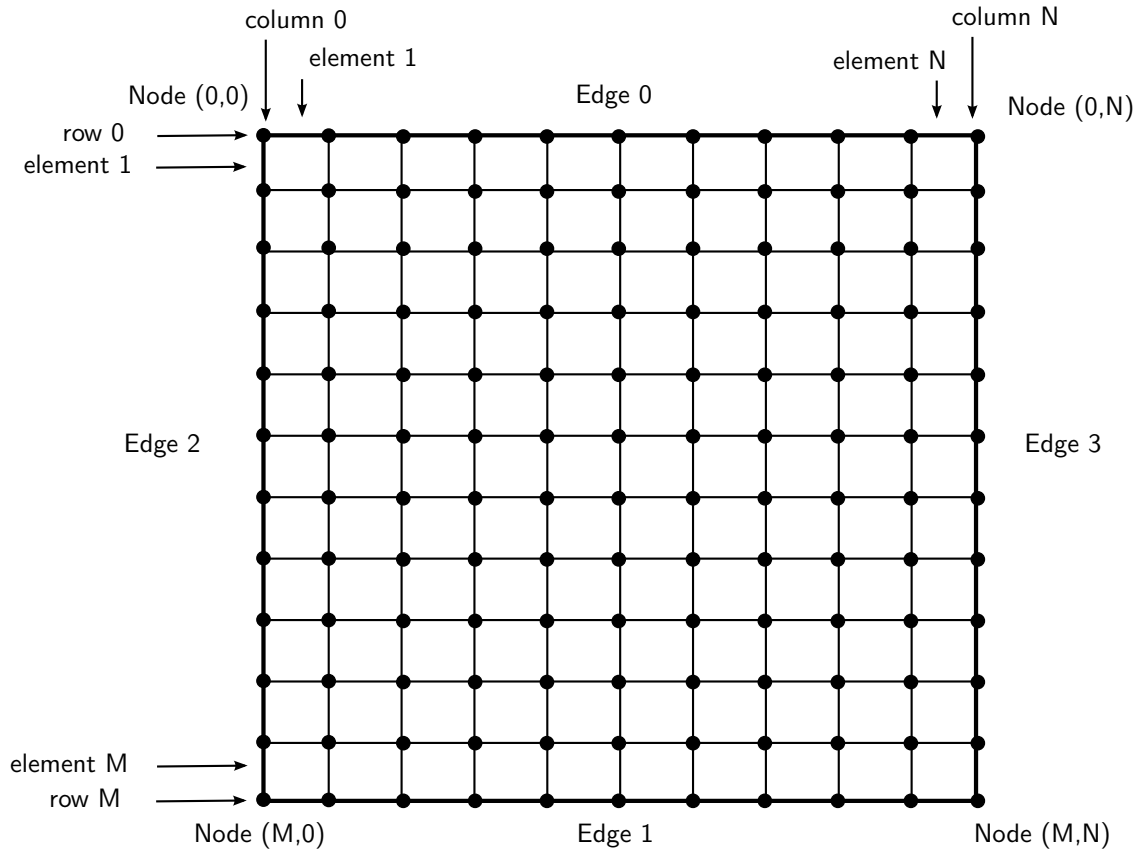

Figure 35: Net panel edge and node definition
- 🔍 A finite-element net DObject contains nodes and elements. The nodes of a net panel are defined as shown Figure 35.
- 🔍 Edges of a panel (edges 0,1,2,3) are defined as shown Figure 35.